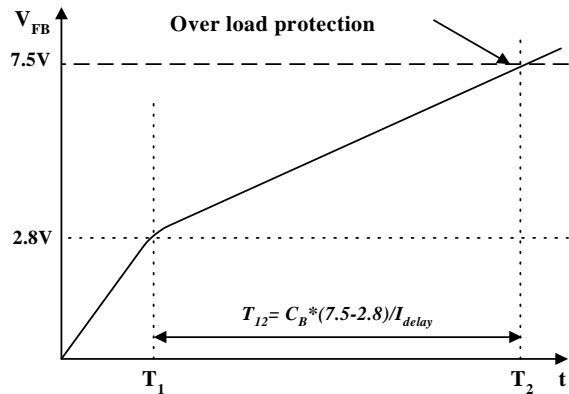

Figure 13. Over load protection
4.1 Over Load Protection (OLP) : Overload is defined as the load current exceeding its normal level due to an unexpected abnormal event. In this situation, the protection circuit should trigger in order to protect the SMPS. However, even when the SMPS is in the normal operation, the over load protection circuit can be triggered during the load transition. In order to avoid this undesired operation, the over load protection circuit is designed to trigger after a specified time to determine whether it is a transient situation or an overload situation. Because of the pulse-by-pulse current limit capability, the maximum peak current through the Sense FET is limited, and therefore the maximum input power is restricted with a given input voltage. If the output consumes more than this maximum power, the output voltage (Vo) decreases below the set voltage. This reduces the current through the opto-coupler LED, which also reduces the opto-coupler transistor current, thus increasing the feedback voltage (Vfb). If Vfb exceeds 2.8V, D1 is blocked and the 5uA current source starts to charge CB slowly up to Vcc. In this condition, Vfb continues increasing until it reaches 7.5V, when the switching operation is terminated as shown in Figure 13. The delay time for shutdown is the time required to charge CB from 2.8V to 7.5V with 5uA. In general, a 20 ~ 50 ms delay time is typical for most applications. This protection is implemented in auto restart mode.